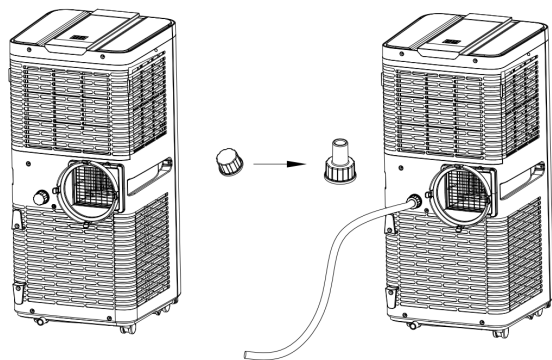

Fig 9
3. Finally, install the drain pipe on the drain changer.(see figure 9)